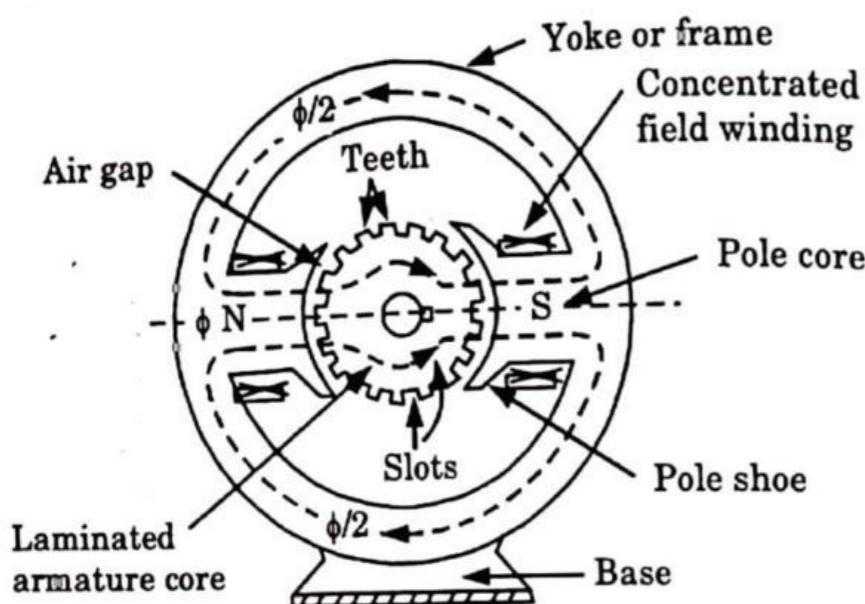

Fig. 4.3.1. Constructional features of a 2-pole DC machine.
- The brush-rigging as shown in Fig. 4.3.1 consists of a group of brush holders and their attachment to the yoke or end cover.